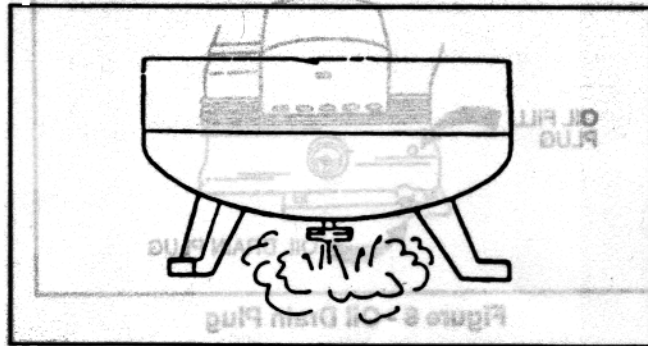

Figure 7 - Drain Cock
3. Drain moisture from tank by opening the drain cock (See Figure 7) underneath the tank. (Before opening make sure pressure is 10 PSI or less).